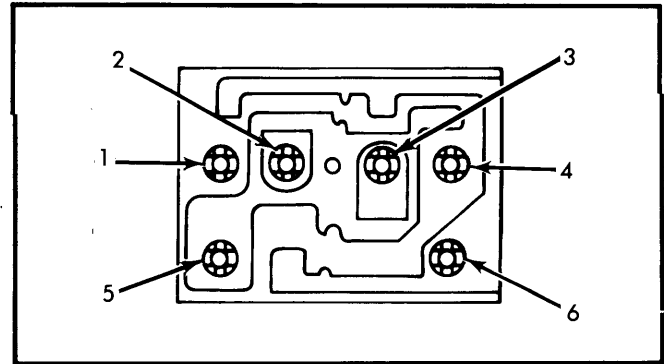

Fig. 1 Multiple Switch Pin Location
1) Remove switch from vehicle. Using an ohmmeter or test light, clip a test probe on pin No. 6 which is grounded. See Fig. 1.